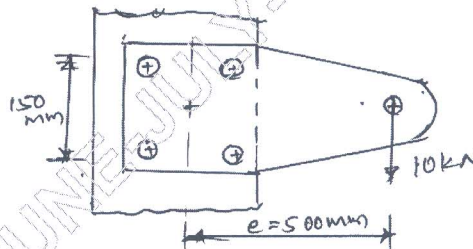

Fig.Q9(b)
- b. The structure is subjected to eccentric load of 10 kN with eccentricity 500mm as shown in Fig.Q9(b). Determine the size of bolt if all bolts are identical and have yield strength 400MPa with FOS as 2.5. (08 Marks)